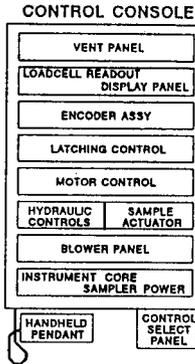

Figure 3) Control Console
- CONTROL CONSOLE (Refer to Figure 3 on Page 12): ENCODER ASSEMBLY AC and DC power switches off, LATCHING CONTROL power and lockout reset keyswitches off, MOTOR CONTROL power and up/down switches off, HYDRAULIC CONTROL switches in spring loaded (off) position, SAMPLE ACTUATOR switches in spring loaded (off) position, INSTRUMENT POWER circuit breakers off.
Figure 3 below, indicates the location of the console control panels.
7.1.1.4 **ACTIVATE** all breakers on the INSTRUMENT CORE SAMPLER POWER panel, (see Figure 3 below), of the control console.